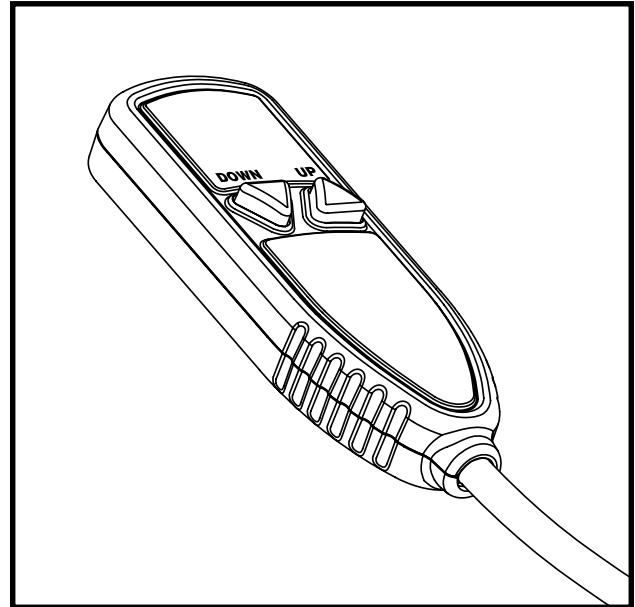

Figure 8. Hand Control
1. Press and hold the “DOWN” button. See figure 8.
6. Press and hold the “UP” button. See figure 8. The lift will move up to its highest lift point, then slide into the van. Once the mobility device is stowed completely within the van, release the button.